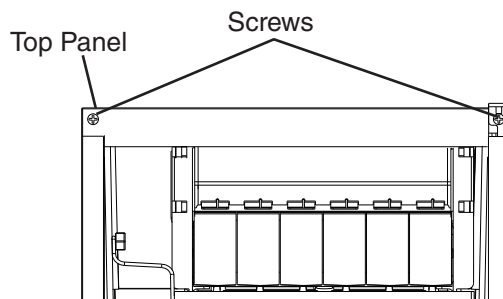

Fig. 2
- 2) Remove the 2 screws securing the top panel, then lift it off. See Fig. 2.